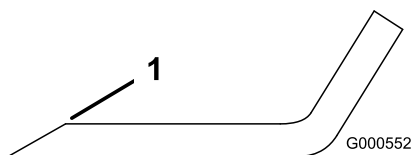
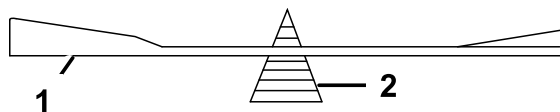

Figure 51
Figure 52
1. Use a file to sharpen the cutting edge at both ends of the blade (Figure 51). Maintain the original angle. The blade retains its balance if the same amount of material is removed from both cutting edges.
2. Check the balance of the blade by putting it on a blade balancer (Figure 52). If the blade stays in a horizontal position, the blade is balanced and can be used. If the blade is not balanced, file some metal off the end of the sail area only (Figure 51). Repeat this procedure until the blade is balanced.